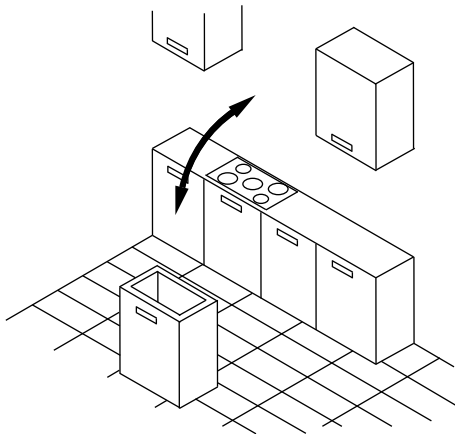

Fig 5
1. It is recommended to install the hood with the cupboard on the floor (Fig 5).
2. Place the Rigoletto into the cut out in the cupboard (Fig 5).